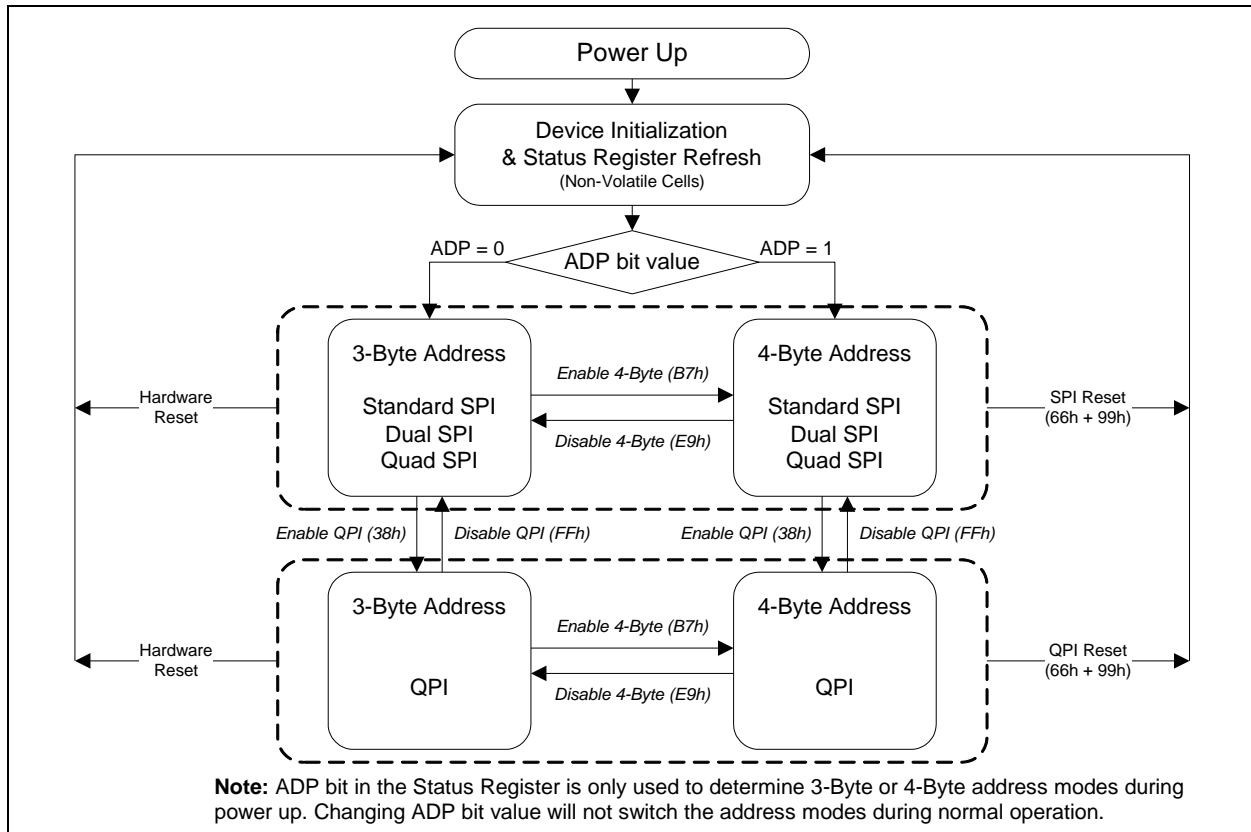

Figure 3. W25Q01JV Serial Flash Memory Operation Diagram
The W25Q01JV supports Quad Peripheral Interface (QPI) operations only when the device is switched from Standard/Dual/Quad SPI mode to QPI mode using the “Enter QPI (38h)” instruction. The typical SPI protocol requires that the byte-long instruction code being shifted into the device only via DI pin in eight serial clocks. The QPI mode utilizes all four IO pins to input the instruction code, thus only two serial clocks are required. This can significantly reduce the SPI instruction overhead and improve system performance in an XIP environment. Standard/Dual/Quad SPI mode and QPI mode are exclusive. Only one mode can be active at any given time. “Enter QPI (38h)” and “Exit QPI (FFh)” instructions are used to switch between these two modes. Upon power-up or after a software reset using “Reset (99h)” instruction, the default state of the device is Standard/Dual/Quad SPI mode. To enable QPI mode, the non-volatile Quad Enable bit (QE) in Status Register-2 is required to be set. When using QPI instructions, the DI and DO pins become bidirectional IO0 and IO1, and the /WP and /HOLD pins become IO2 and IO3 respectively. See Figure 3 for the device operation modes.